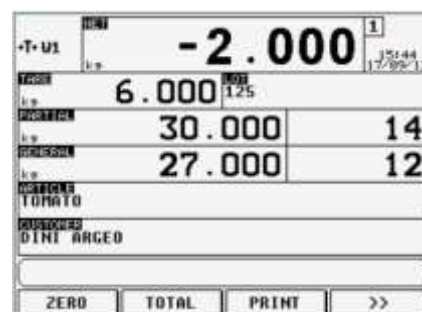

Figure 10. Totalisation success (unloading mode)
6. On success the totals are incremented (Figure 10) and the printout, if configured, is executed